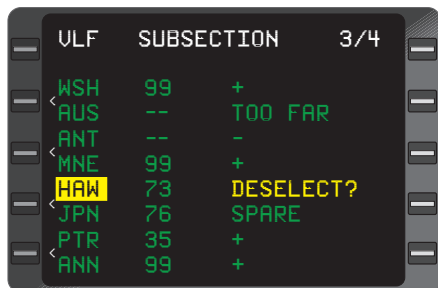

Figure 3-192
6. **BACK** Key - DEPRESS. (Figure 3-192) **DESELECT?** will appear to inform the pilot of the pending change.